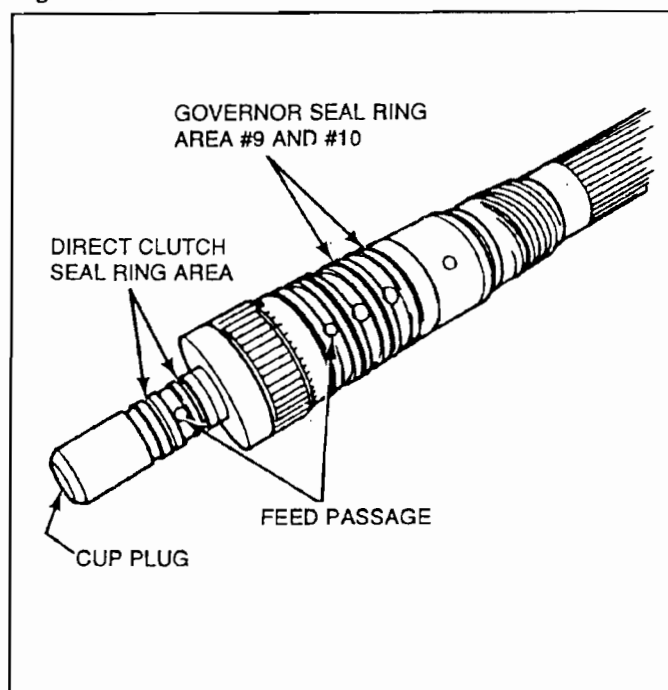

Figure 2
- a. Apply 5-10 psi (34-69 kPa) air to the output shaft feed passages, Figure 2.
7. Check all direct clutch output shaft seals for freedom of movement and for metal shavings and burrs between the seal and the output shaft, Figure 2
5. Check the last two large seal rings on the output shaft (#9, #10), Figure 2.